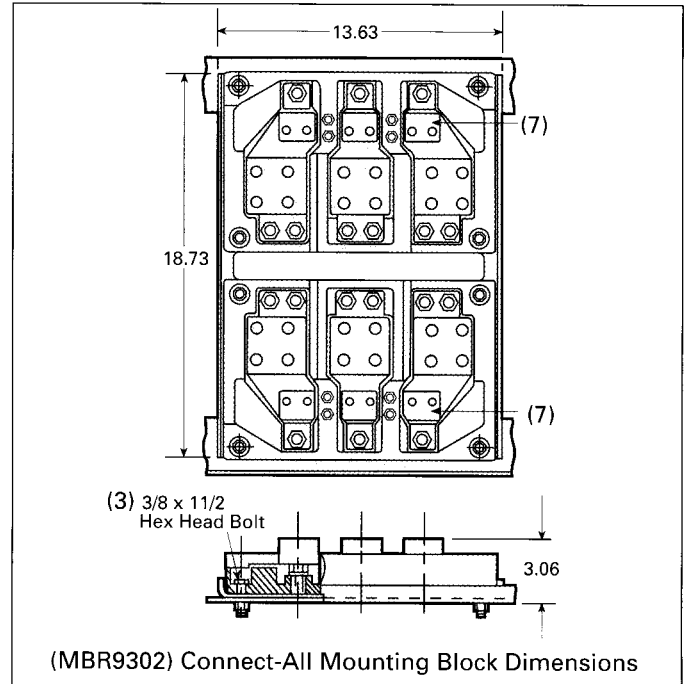

Figure 4
**NOTE:** Refer to Figure 2 for catalog number MB9301, and Figure 4 for catalog number MBR9302.